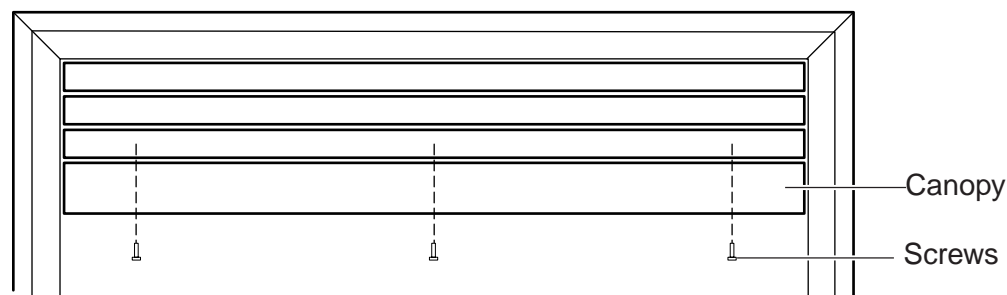

Figure 15 - Canopy Installation
2. Align the black canopy with the holes in the top frame assembly. *Refer to Figure 15.*
3. Install the three (3) screws (in owner's manual packaging) which attach the canopy to the top frame assembly. *Refer to Figure 15.*